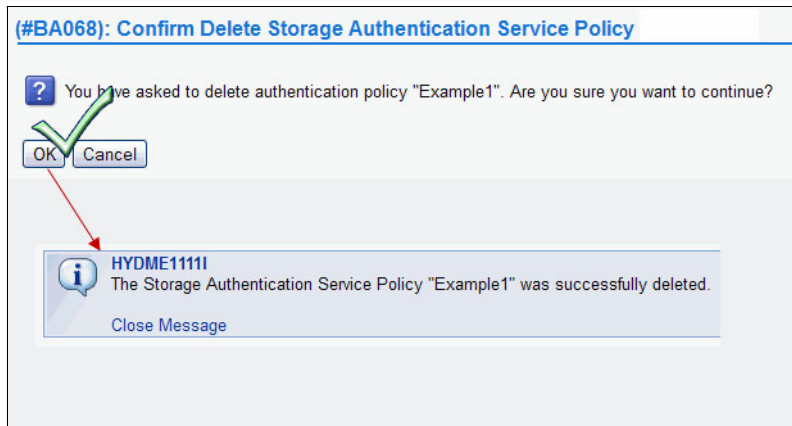

Figure 9-110 Confirm delete and delete action successful messages
3. Confirm the policy deletion, as shown in Figure 9-110. Click **OK** to delete the policy.